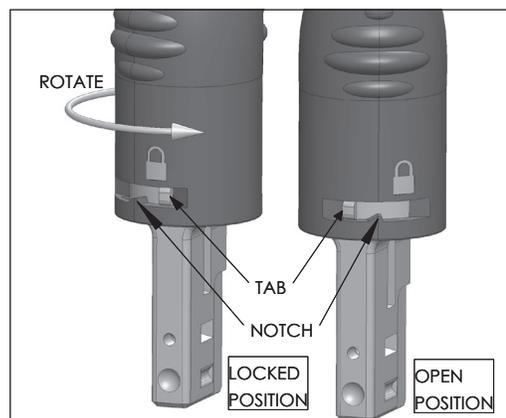

Figure 2: Removing the Magazine Cover
- 12.3.5 To open the vertical seed magazine (VSM), rotate the cover counterclockwise past the notch until the tab is in the open position (See Figure 2). Remove the cover using gentle upward pressure.